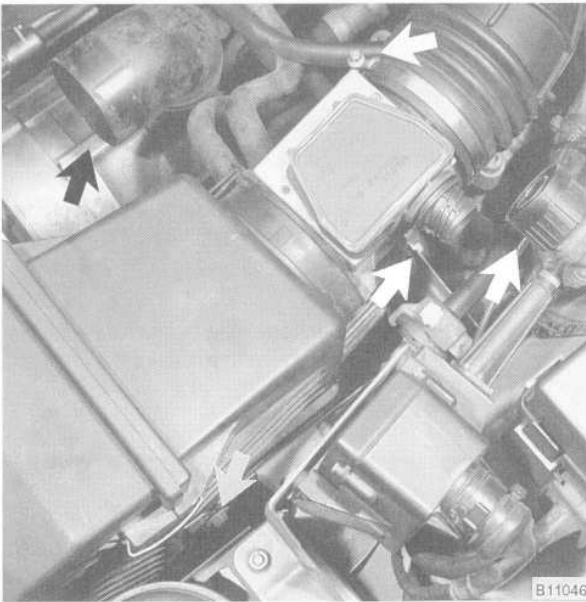

Fig. 7. Alternator cooling duct, air mass sensor connector, intake air duct hose clamp, and air cleaner housing mounting nuts (arrows).
7. Unscrew and disconnect the electrical connector from the air mass sensor. Loosen the intake air duct hose clamp and disconnect the vacuum hoses from the air duct. Loosen the air cleaner housing mounting nuts and remove the air cleaner housing from the car together with the air mass sensor and the intake air duct. See Fig. 7.